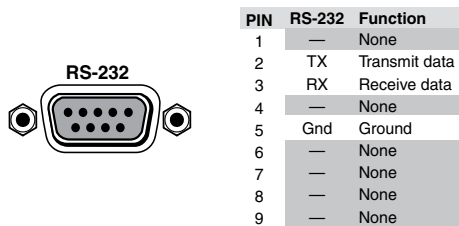

Figure 2-5 — RS-232 connector pinout
- ⑤ **RS-232 port** — Connect a computer or control system to this 9-pin D connector to allow remote control using the SIS commands (figure 2-5). See chapter 4, *SIS™ Control*, for details.